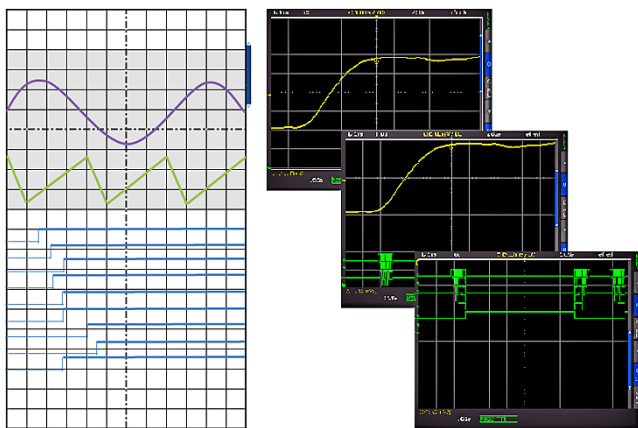

Fig. 7.1: Drawing of the virtual screen area and an example
The graticule for the R&S®HMO3000 series includes 8 vertical divisions but also has a virtual range of 20 divisions. These 20 divisions may be used entirely by the optional digital channels D0 to D7 resp. D15, the mathematical channels and the references signals. The analog channels may use up to ±10 divisions from the center. Fig. 7.1 illustrates the functionality of the virtual screen. The display includes a section of 8 vertical divisions in gray. This section enables you to display analog signals. The small bar next to the graticule indicates the position of the 8 visible divisions within the available 20 divisions. By pressing the SCROLL BAR (5) the bar will be activated and displayed in blue and you can use the universal knob to shift the 8 visible divisions (gray section) within the available 20 divisions. This allows a simple and clear display of many individual signal portions.